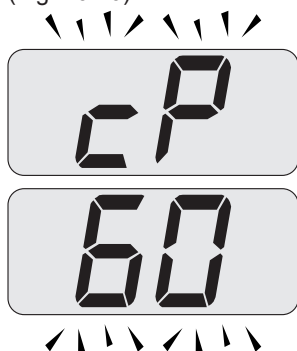

Fig. 10.20
- Press key 18 to vary the output in chimney sweep mode: when the LCD display displays the letters **hP** that alternate with the heating water temperature value (e.g. **60**), the "flue sweep function" is at maximum (eventually range rated) output in heating mode (Fig. 10.20).